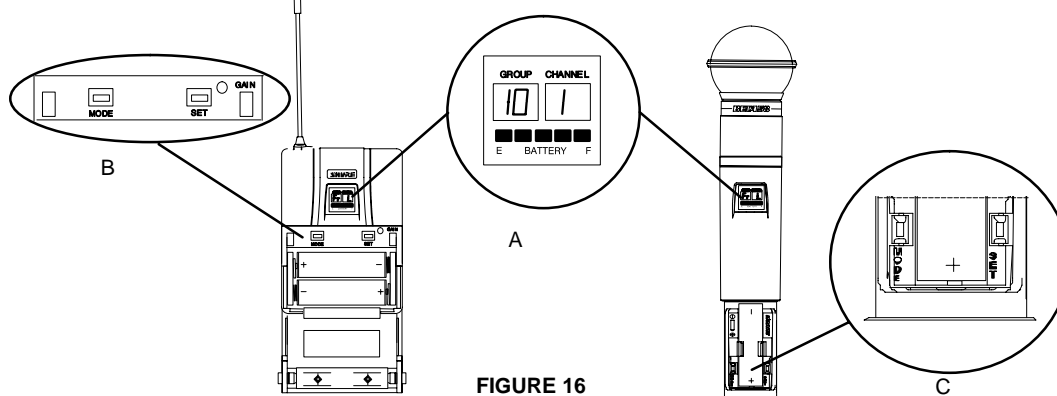

FIGURE 16
2. Open the battery compartment. This will expose the MODE (left) and SET (right) buttons, as well as the GAIN control and the batteries, as shown in Figure 16 B and 16C.